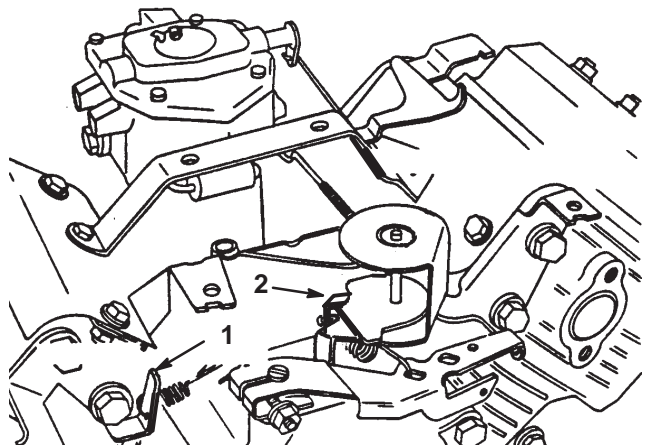

Figure 37
3. Bend the governed idle spring anchor tang (Fig. 37) to attain an idle speed of 1450 ± 50 RPM. Check the speed with a tachometer.
5. Move the throttle control to the Fast position. Bend the high speed spring anchor tang (Fig. 37) to attain a high speed of 2850 ± 50 RPM.